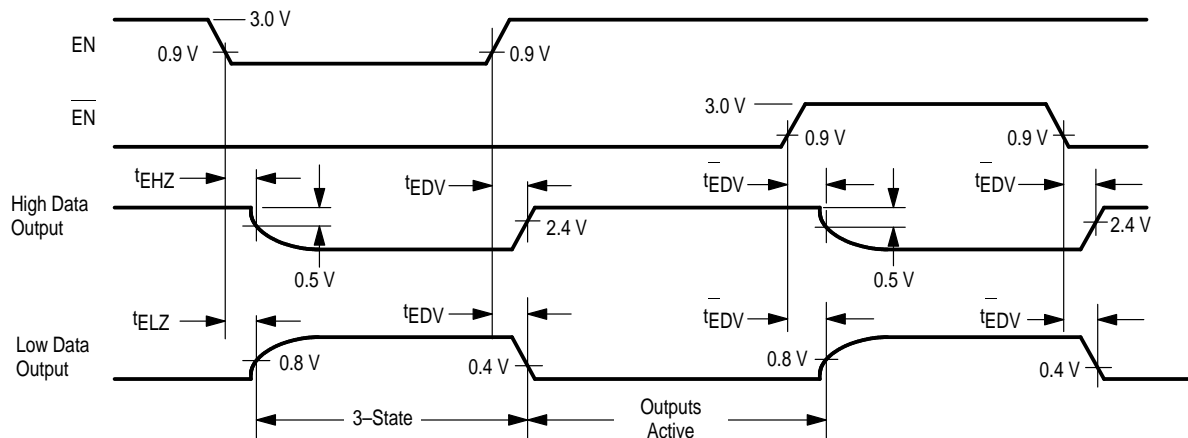

Figure 2. Data Output Test Circuit
*See Figure 2 for output loading.